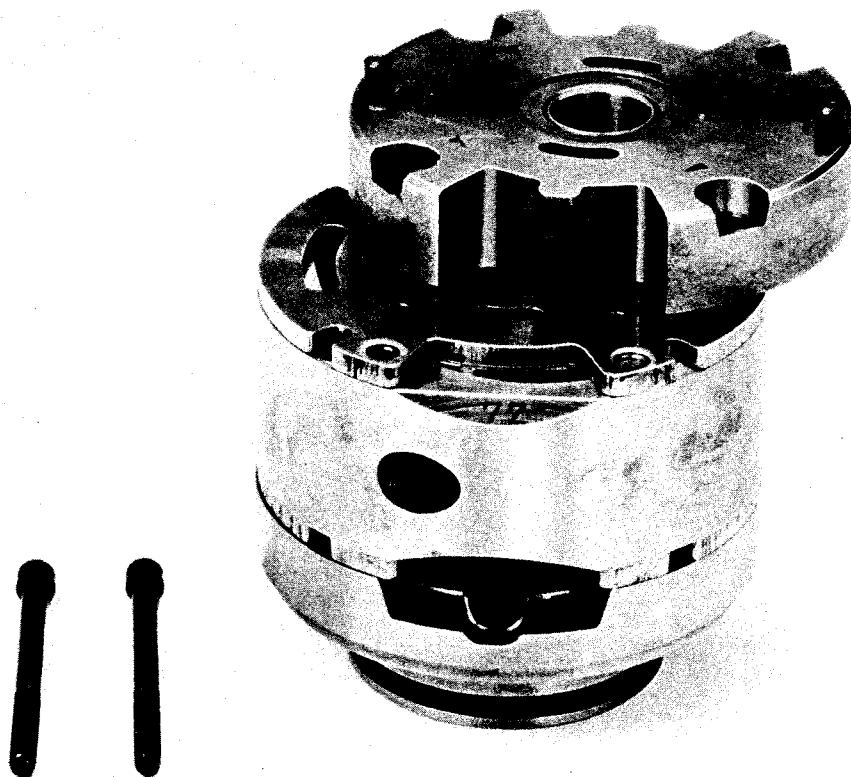

Figure 13 - Inlet support plate removal.
d. Slide the inlet support plate and seal packs off the cartridge. DO NOT allow the flex side plate to slide with the support plate. (See figure 13).